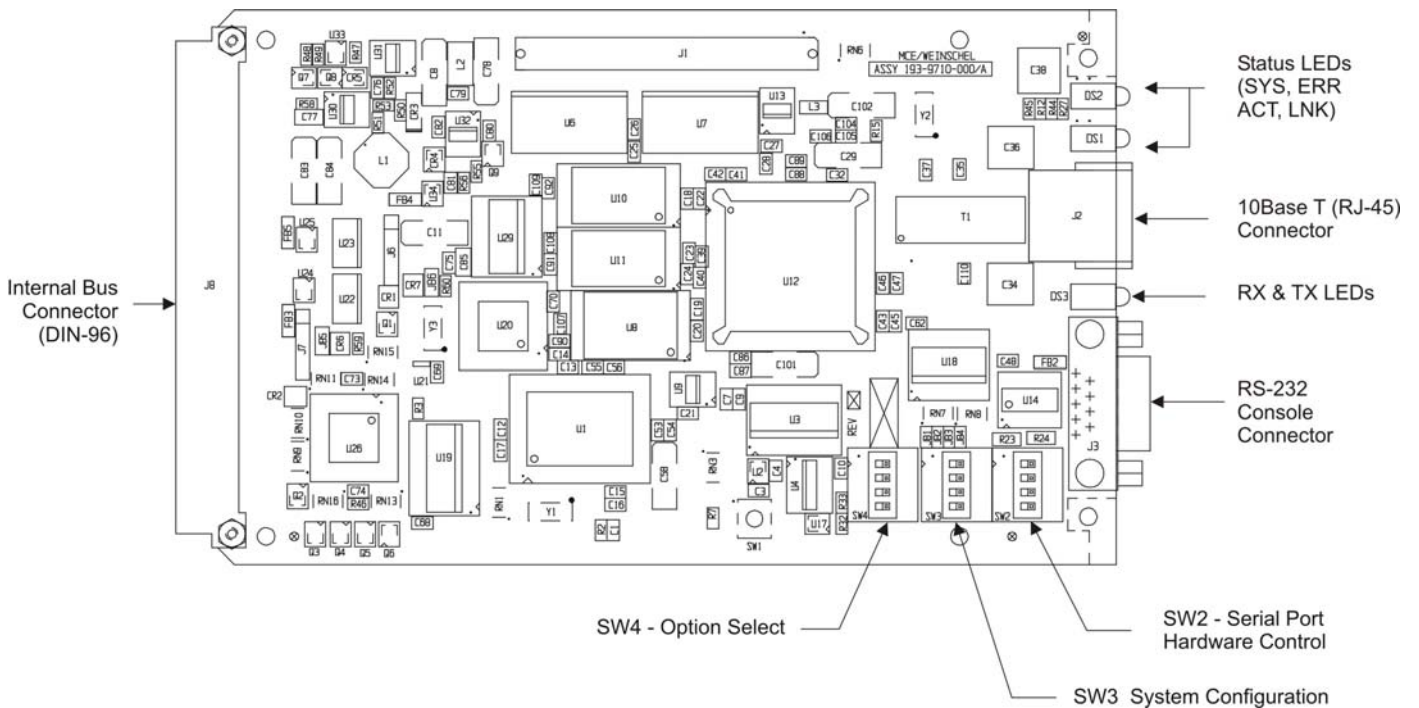

Figure 2. Ethernet Controller Card Switch/LED/Connector locations
**2-5.2. Hardware Configuration Switch Settings:** Figure 2 is provided for component location for the switches, LEDs, connectors on the Ethernet controller card.